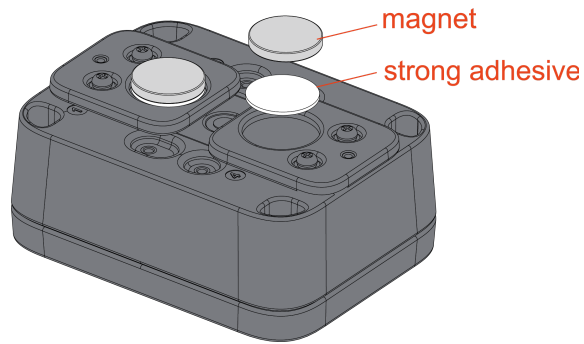

Figure 28: Fixing the magnet mount on the enclosure
3. Place the magnets onto the mounting as shown in **Figure 28**.